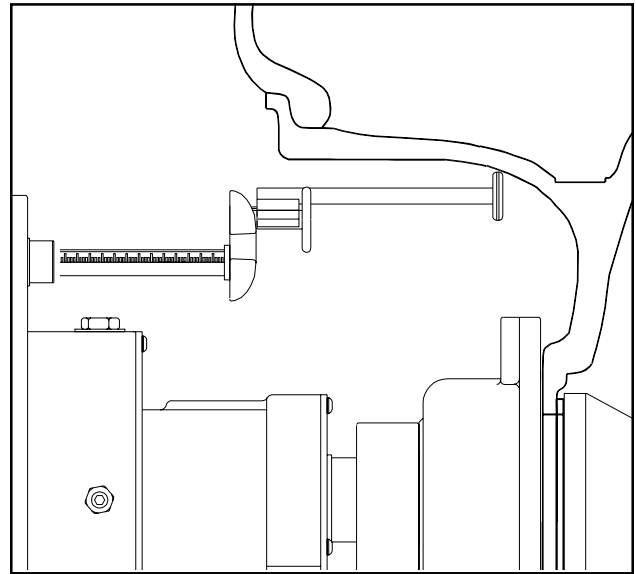

Figure 10
4. The machine displays "d - 2". Move the parameter arm to the right weight position. See *Figure 10*. The computer will display the distance reading and respond with two beeps. The display will then read "rtn SAP" meaning to return the sape arm to rest position.
3. The display will read: "S-4" "L-6". Enter 4 or 6 to indicate which extension was selected. The machine displays "d - 2" move the SAPE arm to the right position. See Figure 10. The display will read the distance followed by two beeps. The display will read "rtn SAP" meaning to return the sape arm to rest position.